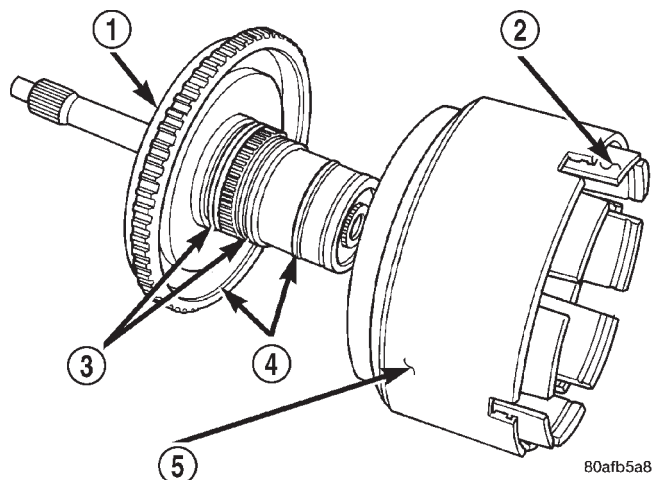

Fig. 248 Input Hub Removed
(22) Tap on input hub with soft faced hammer and separate input hub from OD/Reverse piston and clutch retainer (Fig. 247) (Fig. 248).